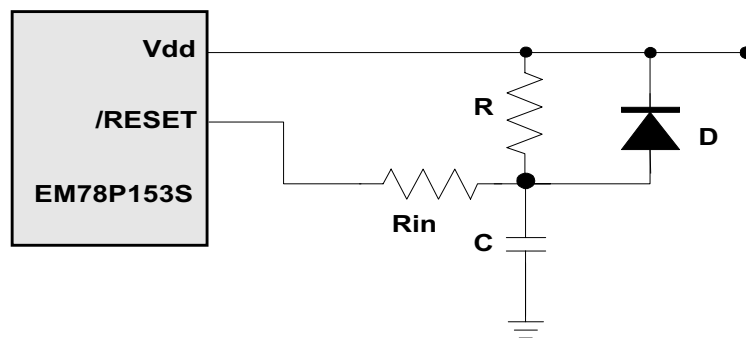

Fig. 17 External Power-Up Reset Circuit
The circuit shown in Fig 17 implements an external RC to produce the reset pulse. The pulse width (time constant) should be kept long enough for V_{DD} to reach minimum operation voltage. This circuit is used when the power supply has slow rise time. Because the current leakage from the /RESET pin is about $\pm 5\mu\text{A}$, it is recommended that R should not be great than 40 K. In this way, the voltage in pin /RESET will be held below 0.2V. The diode (D) acts as a short circuit at the moment of power down. The capacitor C, will discharged rapidly and fully. R_I, the current-limited resistor, will prevent high current discharge or ESD (electrostatic discharge) from flowing to pin /RESET.